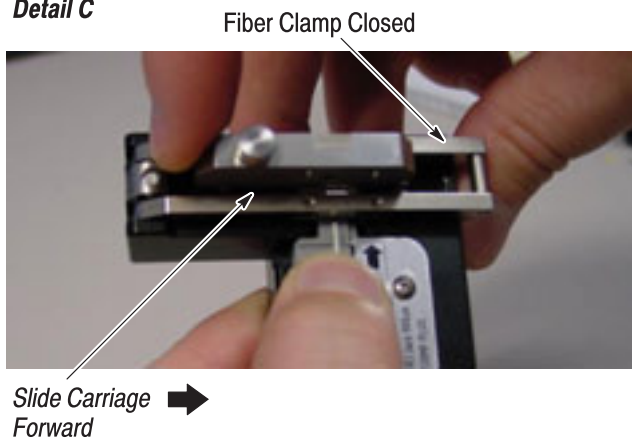

Figure 37
2. Place the stripped fiber into the slot so that the end of the buffer is at the 8-mm marking. See Figure 37, Detail A.
3. While applying pressure on the buffer, carefully slide the fiber slide forward (toward the carriage) until it stops. See Figure 37, Detail B.
4. Gently close the fiber clamp, and slide the carriage forward. DO NOT touch the button while sliding the carriage. See Figure 37, Detail C.